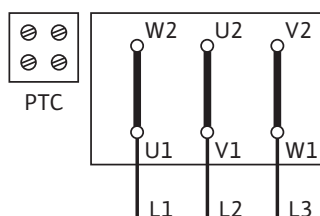

Fig. 39: Y-Δ-start (standard)
- The connection diagram for the electrical connection is in the terminal box (also see Fig. 39/40).
Y-Δ start (default)	Remove connecting bridges (Fig. 39)